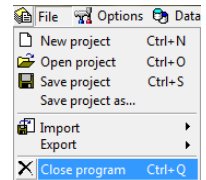

Fig. 125– closing CAD Cut
- by clicking **'Close program'** in the **'File'** menu (Fig. 125);